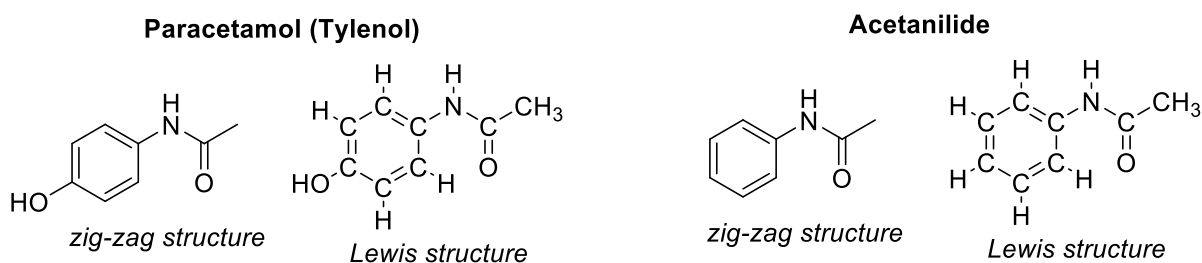
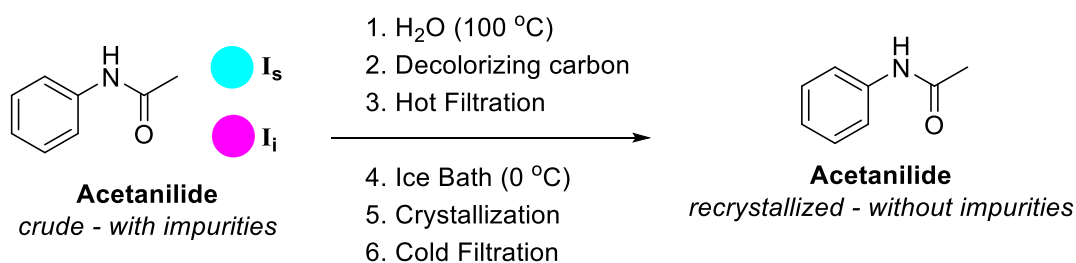

Figure 1. Structures of paracetamol and acetanilide
Figure 2. Recrystallization of acetanilide overview – use *this* in the Purpose of lab notebook
- **Purpose:** one-sentence summary of the main lab goals plus the recrystallization scheme (**Figure 2**).
Paracetamol, the active ingredient in **Tylenol**[®], is commonly used for pain relief (analgesic) and to reduce fevers (**Figure 1**). The synthesis of pharmaceutical agents like Tylenol requires pure starting materials to avoid complications from impurities. Purification is a tedious part of synthetic organic chemistry. Often product recoveries are sacrificed in favor of more pure materials. Solids can be purified *via* recrystallization or sublimation and liquids *via* distillation. Acetanilide has a similar structure to Tylenol and is also an analgesic. Acetanilide is no longer marketable due to toxic effects when ingested, but it is safe to use in the organic teaching lab as it is only a mild skin irritant. Acetanilide recrystallizes well from water due to its high solubility in hot water and low solubility in cold water. The purification of acetanilide serves an excellent introduction to recrystallization (**Figure 2**).